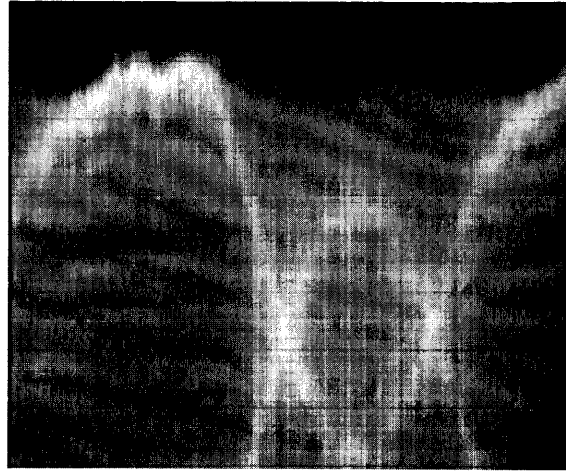
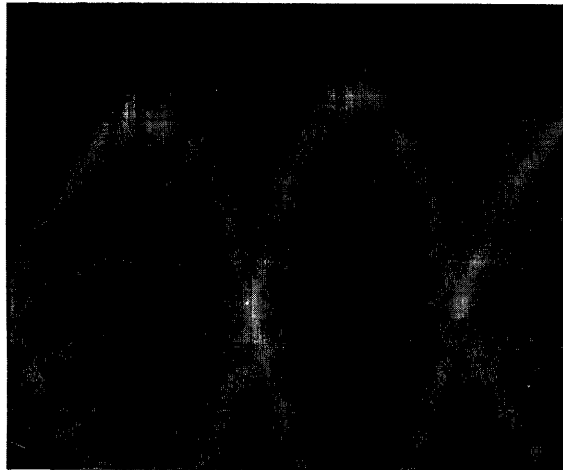

Figure 6-28. Heads Too Far Back
Figure 6-30. Heads Aligned
- (2) Observe the waveforms shown in Figures 6-28 and 6-29 and determine which direction the heads must be moved.
- (3) Locate the two radial positioning screws on the selected head.
- (4) By loosening one screw and tightening the other, position the selected head until the waveform of Figure 6-30 is obtained; without disturbing the adjustment, tighten both screws.
- (5) Align both heads in the same manner.
- (6) Set exerciser to position the heads to cylinder 146.
- (7) Select head 0.
- (8) Observe the waveform at TP2 on the Read/Write PCBA and compare it to the one shown in Figure 6-30.
- (9) Select head 1 and repeat Step (8).